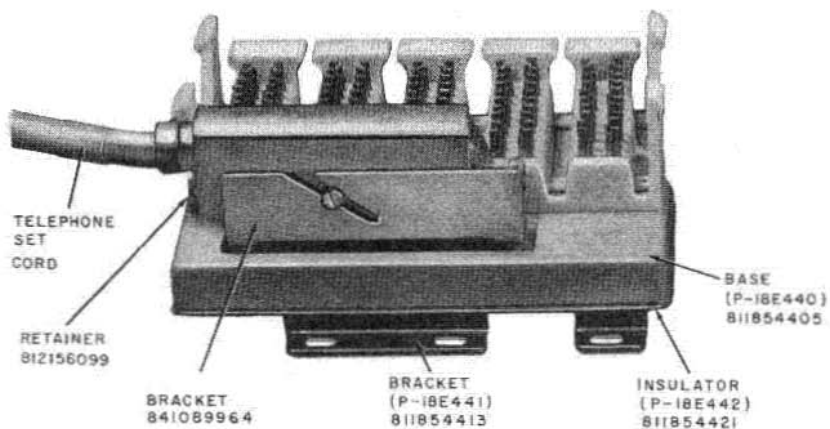

Fig. 2—66E4-25 Connecting Block
2.04 The 66E4-25 connecting block (Fig. 2) is equipped with a molded plastic base without cable trough or cover; it incorporates a mounting bracket which allows mounting in commercial type underfloor duct service fittings. ♦Cover for 66E4-25 connecting block must be furnished by customer and should be similar to that shown in Fig. 5.♦